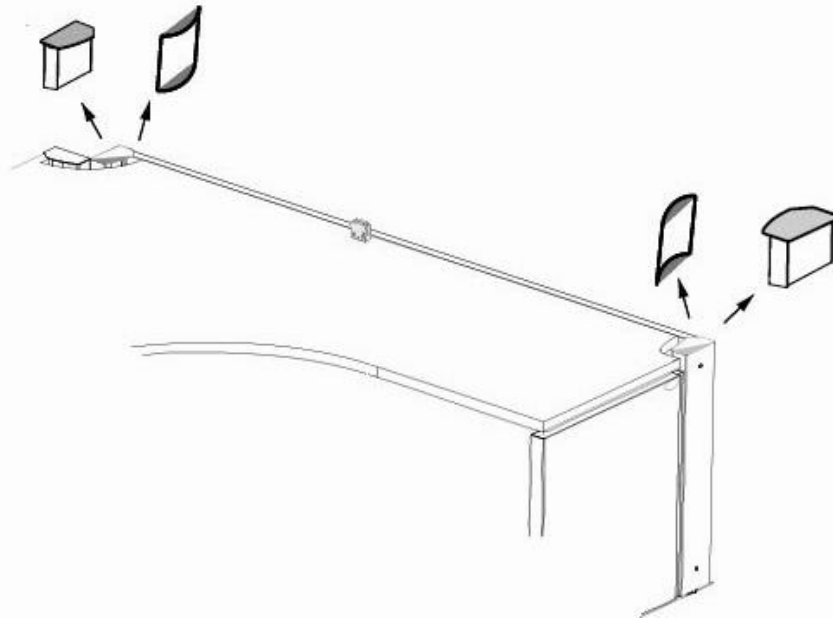

Figure 5: Remove Plastic Top Covers and Cable Management Shields
4. As shown in **Figure 5**, at each end of the worksurface, gently pop out the left and right plastic top covers and also the inside plastic cable management shields. Store removed components for future use.